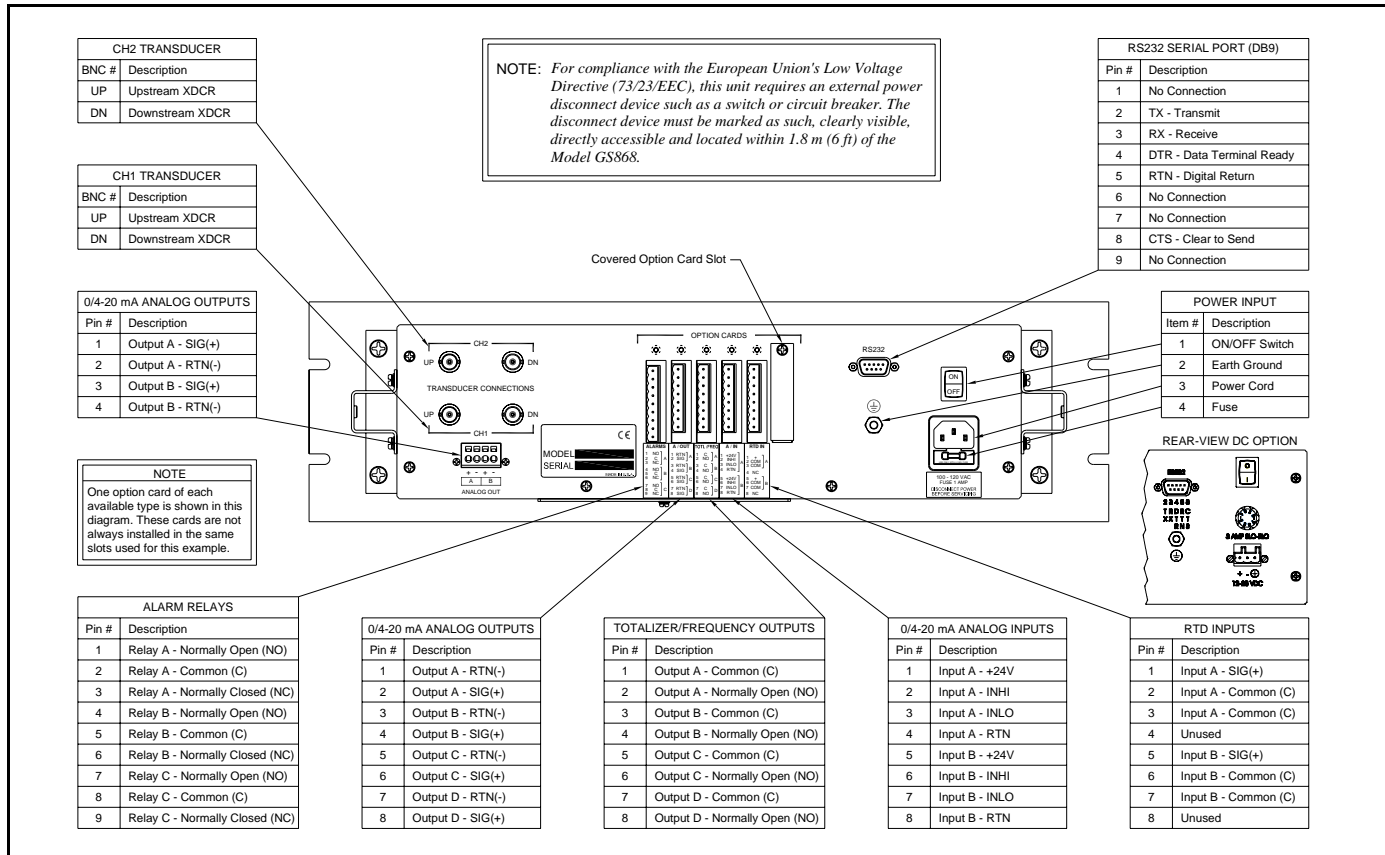

Figure C-2. Model GF868 Rock Mount Enclosure - Wiring Diagram
The rack mount Model GF868 requires exactly the same electrical connections as the standard version. However, the locations and type of connectors used for the various components are different. Refer to Figure C-2 on page C-4 and complete the following steps:
- a. Purchase or prepare a suitable serial cable. This cable should have a standard female DB9 connector, wired as shown in Figure C-2 on page C-4, for connection to the rear panel of the Model GF868. The other end should be as required for the external device.
5. Wire any installed *option cards* using the same procedures described in Chapter 1, *Installation*, of this manual and the pin # assignments shown in Figure C-2 on page C-4.